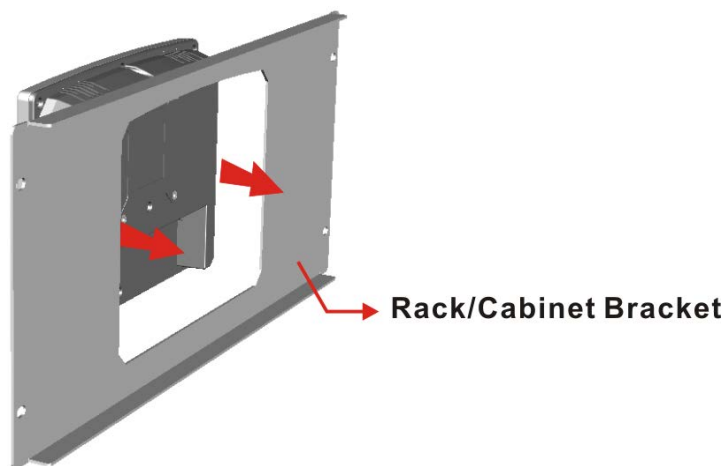

Figure 3-24: Rack/Cabinet Bracket Installation
Step 1: Slide the rear chassis of the AFL3-W10A/12A/W15A-BT panel PC through the rack/cabinet bracket until the frame is flush against the front of the bracket (Figure 3-24).